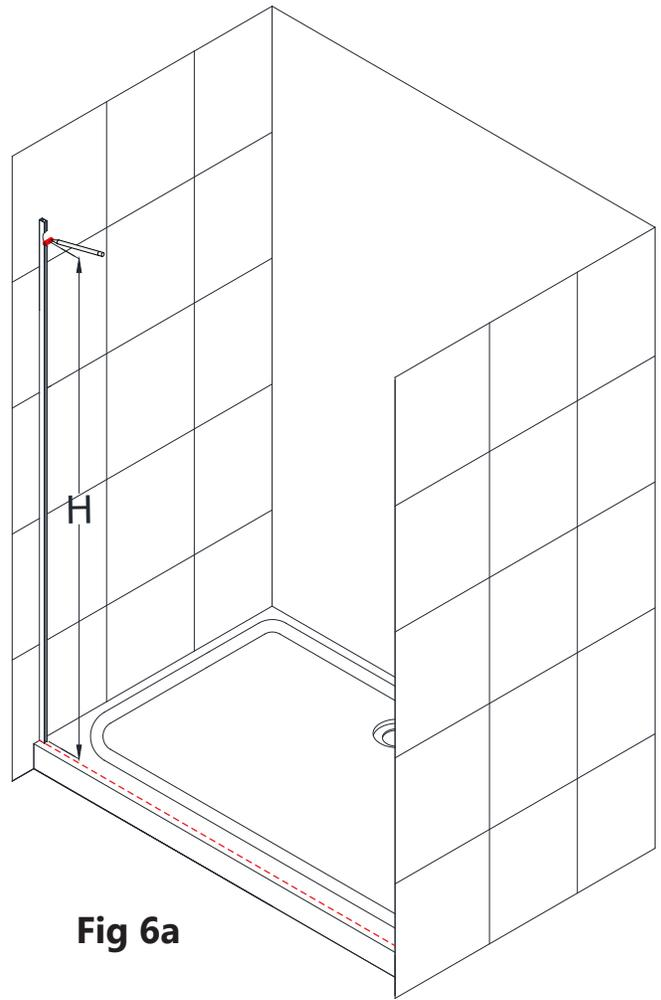
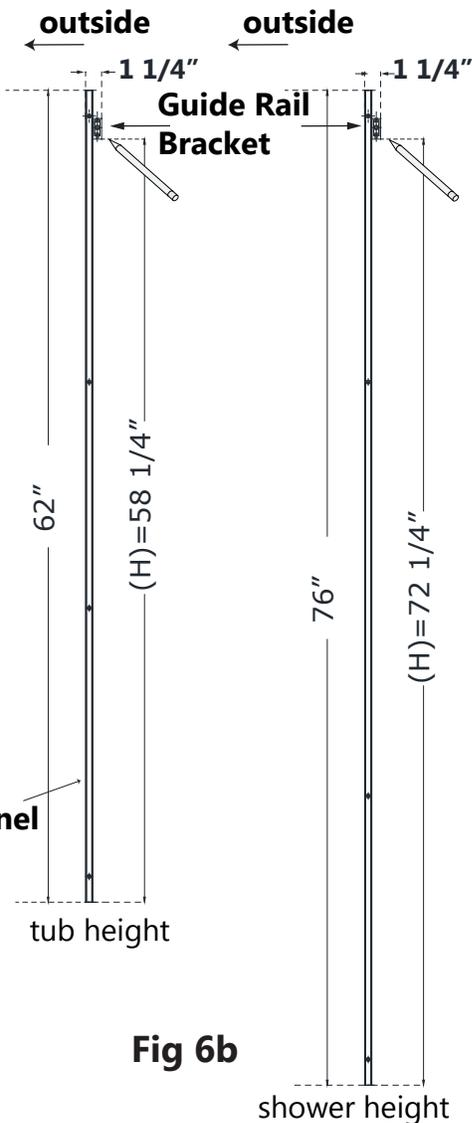

Fig 6a
Fig 6b
6. To position the **Guide Rail Brackets (#06)**: From the inside of the shower, measure up from the threshold to the mark the bottom of the **Guide Rail Bracket (#06)** using **Table 1** below. While holding the bracket against the edge of the installed **U-Channel (#01)**, mark the wall at the bottom of the bracket to the correct installation height. (**Fig 6a** and **Fig 6b**)